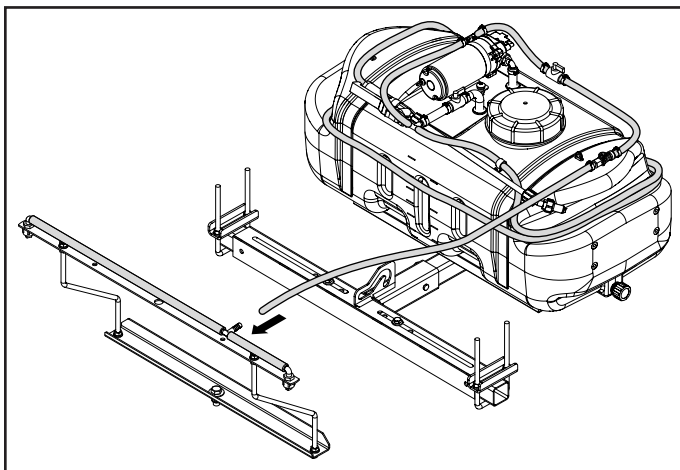

FIGURE 8
STEP 8: (SEE FIGURE 8)
STEP 9: (SEE FIGURE 8)
- Connect the wire harness switch (12) to the wire harness battery (13).
- Route the wire harness switch towards the sprayer using the plastic wire harness clips (P). **Note:** Be sure to secure the harness clear of exhaust, fans, and pinch points.
- Attach the wire harness switch (12) to pump harness.